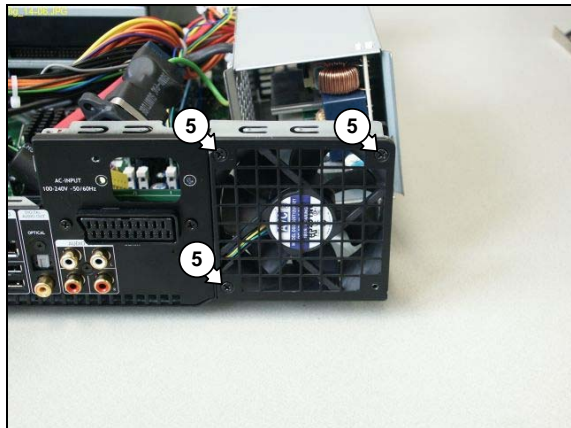

Figure 12.14-6
9. Remove the 3 mounting screws (5) from the PSU fan. See Figure 12.14-6.
**Note:** Make sure that the 3 PSU fan mounting screws (5) are placed in the correct holes. Refer to Figure 12.14-6.